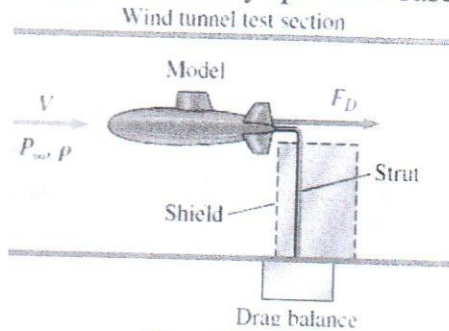

Fig. 1: Part 1
1. A smooth pipe of diameter 300 mm and length 600 m carries water at the rate of 0.4 m³/s. Determine the head loss due to friction, wall shear stress, centerline velocity and thickness of laminar sub-layer. Take kinematic viscosity of water as 0.018 stokes. (CO6) (25)
- OR A rough pipe of diameter 300 mm and length 600 m carries water at the rate of 0.4 m³/s. The wall roughness is 0.015 mm. Determine the co-efficient of friction, wall shear stress, centerline velocity and velocity at a distance of 100 mm from the pipe wall. Take kinematic viscosity of water as 0.018 stokes. (CO6) (25)
2. (a) Define Prandtl Mixing Length Theory. Derive expression for Universal velocity distribution for Turbulent flow in in pipes. (CO6) (25)
3. **Part 1:** A student team is to design a human-powered submarine for a design competition. The overall length of the prototype submarine is 2.24 m, and the designers hope that it can travel fully submerged through water at 0.56 m/s. The water is freshwater (a lake) at T = 15 °C. The design team builds a one-eighth scale model to test in their university's wind tunnel as shown in Fig. 1. A shield surrounds the drag balance strut so that the aerodynamic drag of the strut itself does not influence the measured drag. The air in the wind tunnel is at 25 °C and at atmospheric pressure. At what air speed do they need to run the wind tunnel in order to achieve similarity? (25)